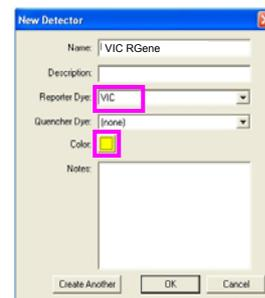

Fig.7
- In the same way, click again on **NEW DETECTOR...** and enter the following data (Fig.7):